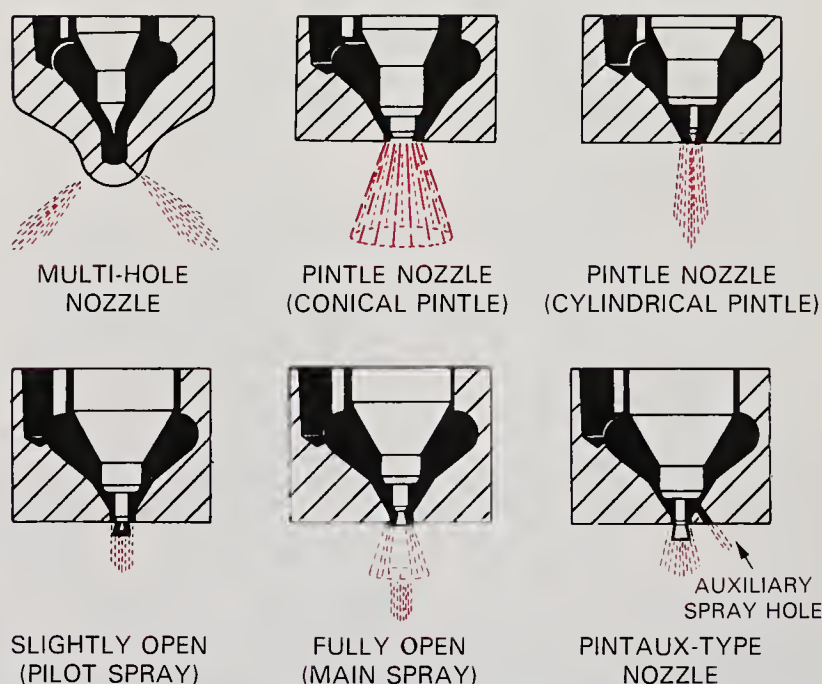

Fig. 23-25. Study spray patterns for different types of injectors. (Chrysler)
2. Outward opening injector nozzle, Fig. 23-25.
Most automotive diesels use an inward opening, pintle type injector nozzle. Fig. 23-25 shows some typical spray patterns.